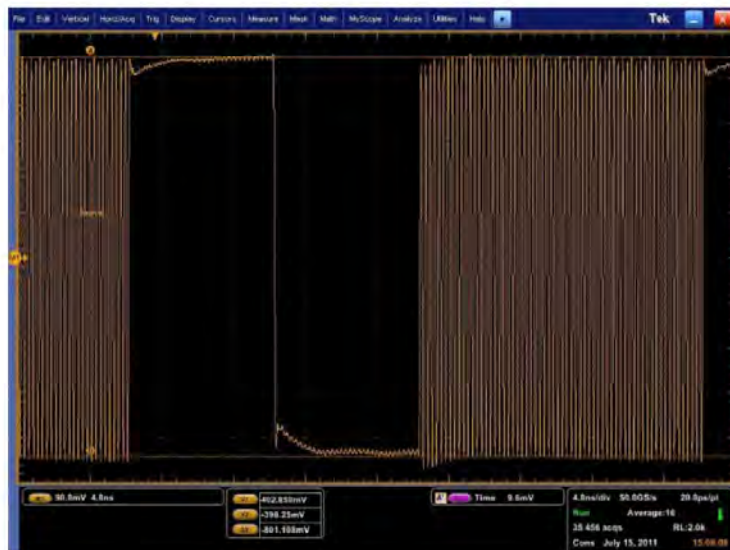

FIGURE 45. AMPLITUDE EQUALIZATION SETUP
3. Tune the DPP Post Cursor until the low frequency and high frequency component of amplitude is same level. See Figure 45.